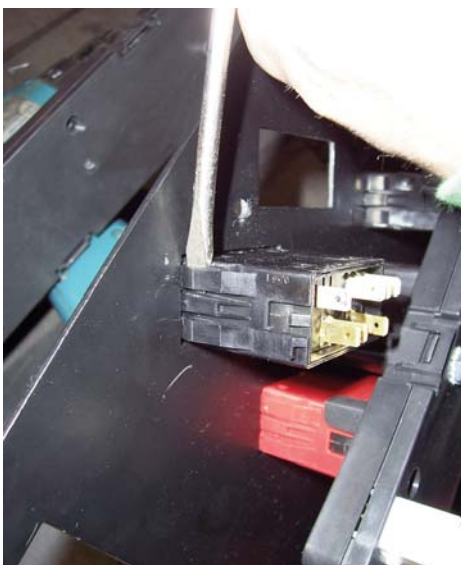

Figure 5
8. Using the original switches or new switches, pry switch locking tabs away from switches to secure them to the panel. **Figures 5 & 6**